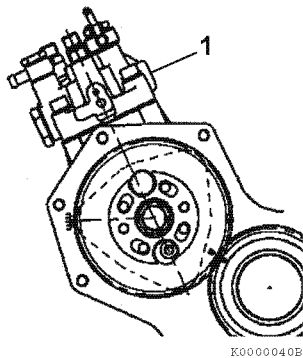
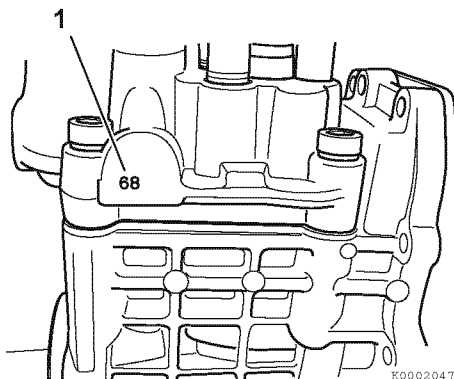

Figure 7-29
Figure 7-30
1. Locate and record the fuel injection pump timing index number (1, **Figure 7-30**) stamped into the boss on the engine side of the fuel injection pump housing (1, **Figure 7-29**). Treat this number as though there is a decimal point between the two digits. i.e. 68 = 6.8